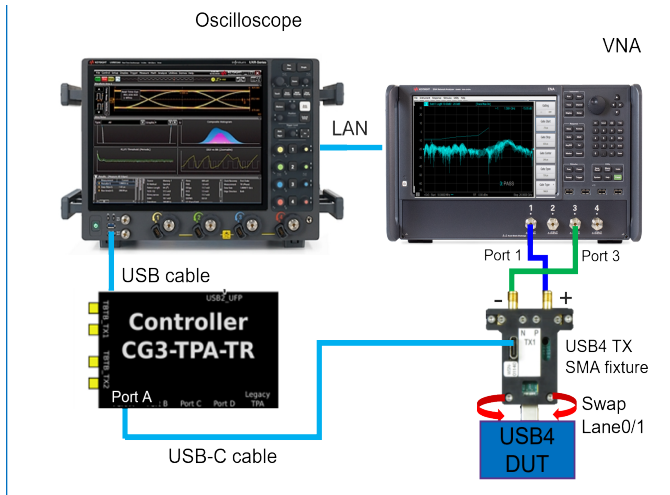

Figure 117 Tx Return loss test setup with Tx SMA test fixture
- 1 For the physical connections between the DUT & the Oscilloscope, see the connection diagrams in Figure 117 and Figure 118.